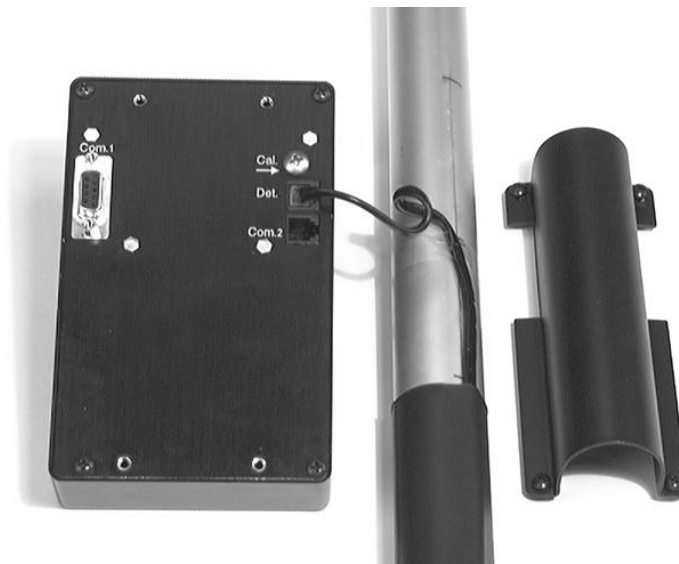

Figure 8-3. Meter disassembly
- 9.4.3. The meter and holder are now detached from the telescopic pole. See Figure 8-3.